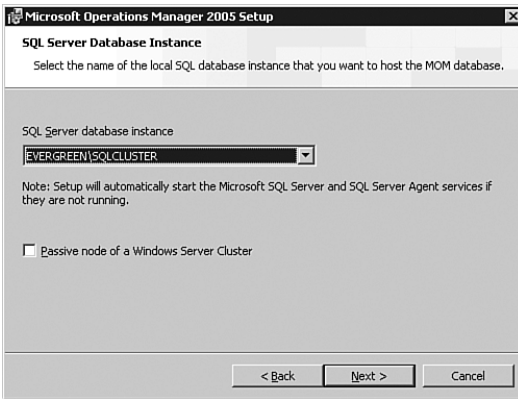

FIGURE 10.9 Specifying the Virtual SQL Server Cluster Node and Instance.
2. Specify the location of the MOM database, which will be the virtual SQL Server Cluster node and instance. Figure 10.9 shows the screen configured with the virtual SQL Cluster node of Evergreen and the instance name SQLCluster.